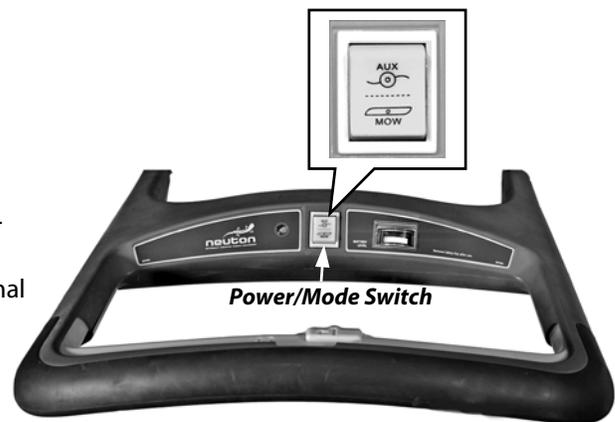

Figure 24
The Power/Mode Switch (**Figure 24**) controls the Mower, Power, and optional Trimmer. This Switch has three (3) settings.